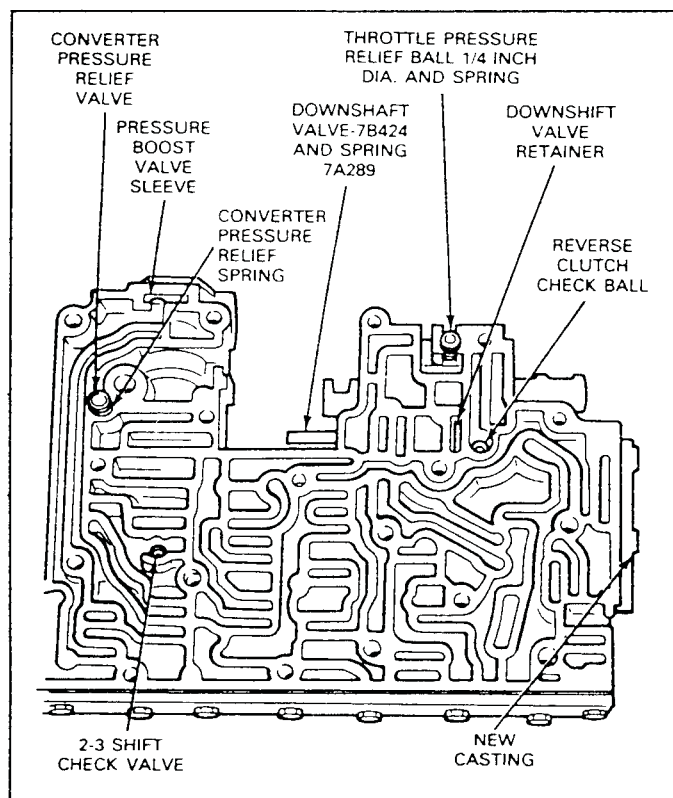

FIG. 27 Downshift Valve and Spring, Converter Pressure Relief Valve, Throttle Pressure Relief Valve Check Ball, and 2-3 Shift Check Valve Locations
1. Place the downshift valve and spring in the valve body. Compress the spring and install the retainer from the underside of the body (Fig. 27).
2. Place the valve body on a clean surface with the passage side facing up. Place the converter relief valve spring in its bore (Fig. 27). Coat the converter pressure relief valve with petroleum jelly and place it on top of the spring. Place the 2-3 shift valve check ball in its cavity. Place the throttle pressure
relief valve spring in its bore (Fig. 27). Coat the throttle pressure relief valve check ball with petroleum jelly and place it on top of the spring. Place the reverse clutch check ball in its cavity.